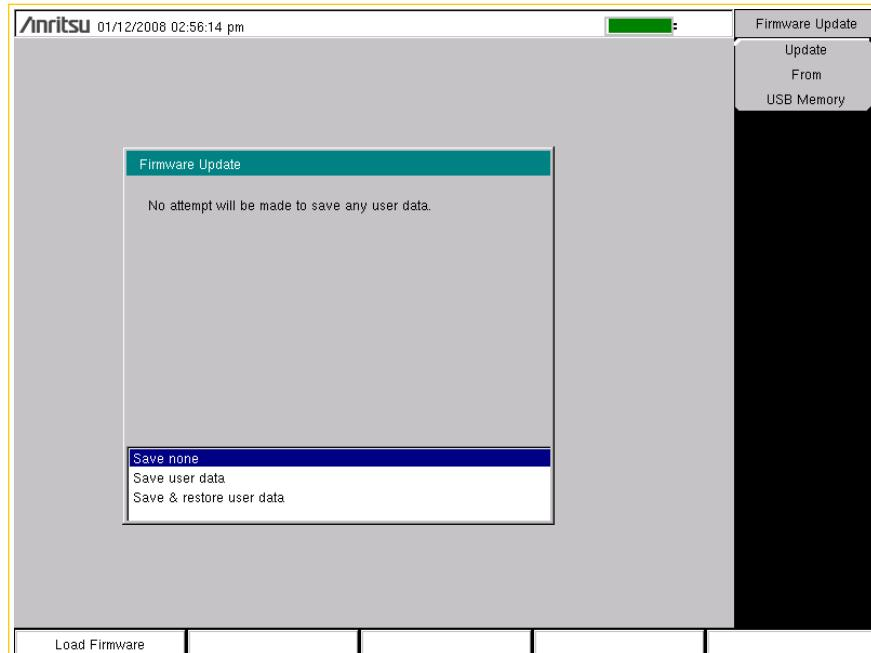

Figure 5-10. Firmware Update Menu
4. Press the **Update Application Firmware** submenu key, and the Firmware Update dialog opens (Figure 5-10).